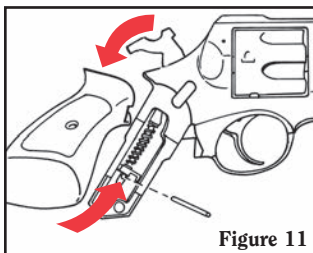

Figure 11
3. Cock the hammer. Insert an appropriately-sized pin (or similar instrument) into the hole at the rear of the mainspring strut. (See Figure 11).